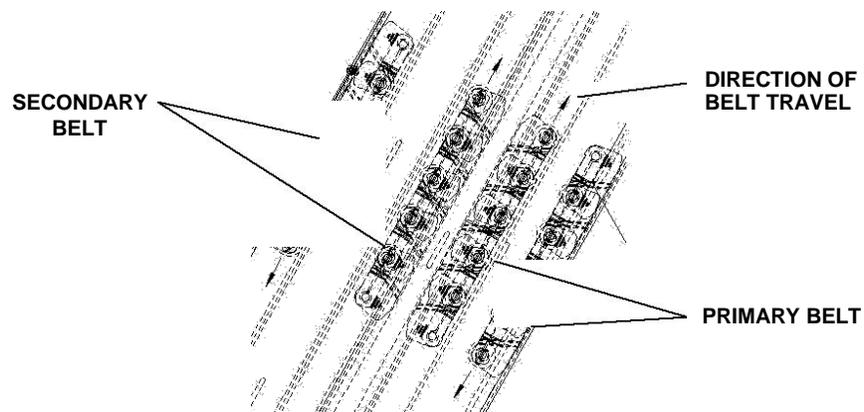
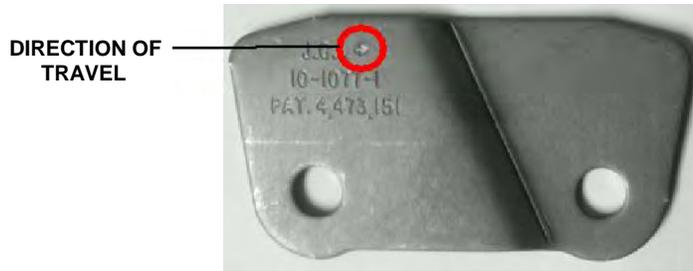

Figure 19: Primary and secondary belt direction
Figure 20: Belt direction indicator
3. The primary and secondary belts must be inserted in opposite directions (Figure 19). Use the belt direction indicators on the side wings (Figure 20). The primary belt should be installed before the secondary belt for ease of installation.